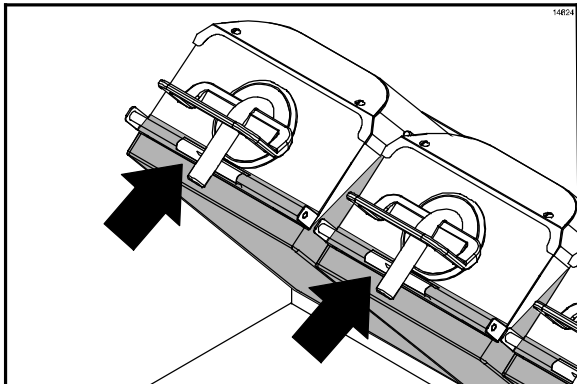

Figure 68
40. Re-install the upper release sheets. Secure the sheets with the locking clips and bars. (See Figure 68.)